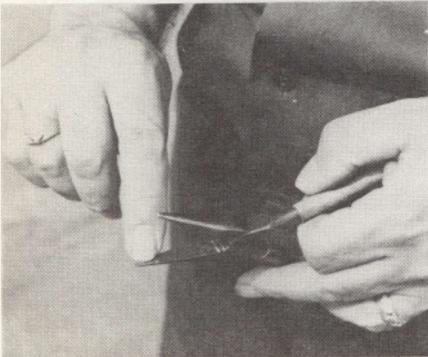

Fig. 1
- Worn serrations - use fingernail test(Fig. 1)